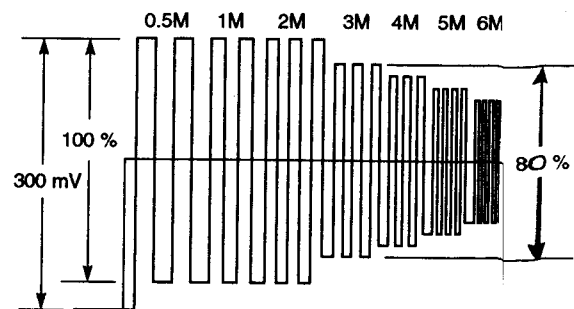

Fig. 5-1-22
- Set the Lens Iris so that the Video signal level at TP602 becomes 300 mV as shown in Fig. 5-1-22.
- Adjust CT601 so that each response becomes flat level and the 3 MHz signal level becomes 80 % against 0.5 MHz response as 100 % as shown in Fig. 5-1-22.
- Adjust CT501 so that each response becomes flat level and the 3 MHz signal level becomes 80 % against 0.5 MHz response as 100 % as shown in Fig. 5-1-22.
- Adjust CT701 so that each response becomes flat level and the 3 MHz signal level becomes 80 % against 0.5 MHz response as 100 % as shown in Fig. 5-1-22.